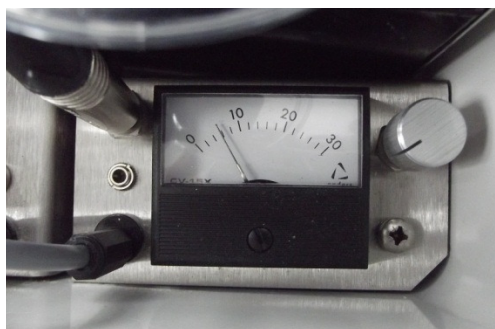

**Figure 7:** Variable resistor dial.
**Note:** When then the MTS-32 is switched on, the level of current being supplied to the pump is shown on the gauge. The variable resistor should be adjusted to show no more than 100 mA. This can be done by turning the dial (Figure 7) anti-clockwise.